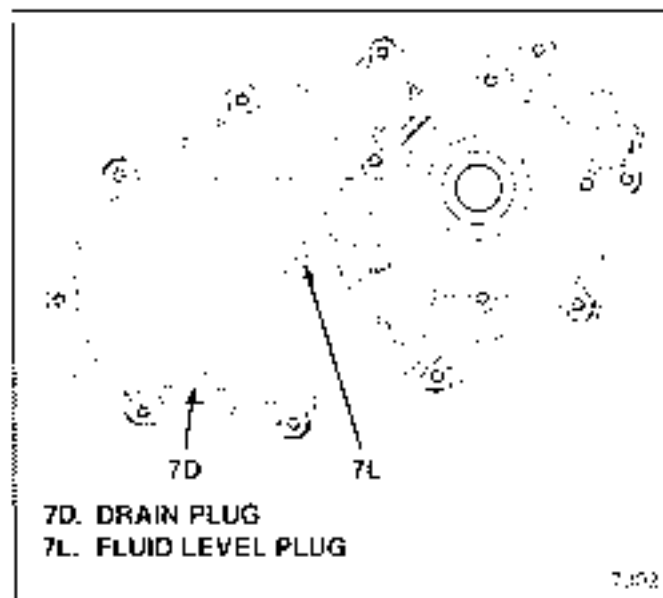

Figure 2-1. Drain and Fluid Level Plugs
a. Wipe fluid level plug (see figure 2-1) and surrounding area clean.
a. Wipe fluid level and drain plugs (see figure 2-1) and surrounding areas clean.
- e. Place drain pan under transfer case and remove transfer case drain and fluid level plugs (see figure 2-1). Drain all fluid from transfer case and re-install plugs.
- f. Disconnect all electrical wiring and/or wiring harnesses from transfer case speed sensor (9), clutch terminal connector (27) and 4WD indicator switch (70).
- g. Disconnect shift linkage from transfer case shift lever assembly (73).
- h. Disconnect breather hose from transfer case breather barb (94).
- i. Disconnect front drive shaft from transfer case front yoke (91).
- j. Disconnect rear drive shaft from transfer case rear yoke (8) or slip rear output.